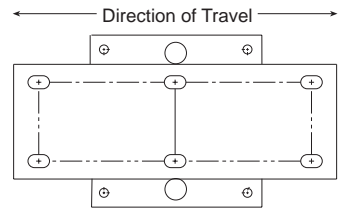

Figure 2-1. Direction of travel (top view)
4. The mount must be positioned in the direction of travel (Fig. 2-1).
4. Slide the load cell mount into place on the pier under the main girder. Align the load cell mount in the direction of travel. (Fig. 2-1 on page 2).